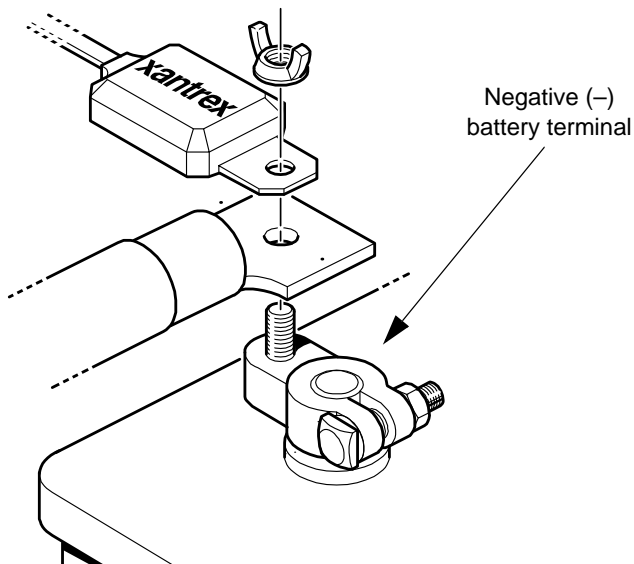

Figure 11 BTS Mounted on the Negative Battery Terminal
6. Mount the sensor directly on top of the ring terminal, as shown in Figure 11, and firmly tighten the terminal nut.